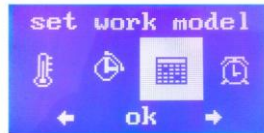

Fig 6
- Press  button and press  or  to select function setting in Fig 6.